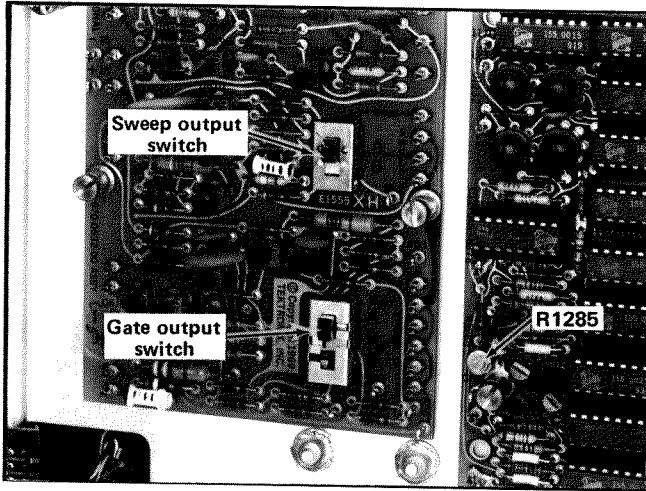

Fig. 5-12. Location of Sweep output switch and Gate output switch.
e. Secure the hinged chassis in place and set the Gate Selector switch on the Output Signal board (see Fig. 5-12) to B position.
- e. Set the Gate Selector switch on the Output Signal board (see Fig. 5-12) to A position.
- h. Set the Gate Selector switch on the Output Signal Board (see Fig. 5-12) to B position.
- j. Set the Gate Selector switch on the Output Signal board (see Fig. 5-12) to Dly'd position and select the B Starts After Delay mode of the Type 7B51 Delaying Time Base.